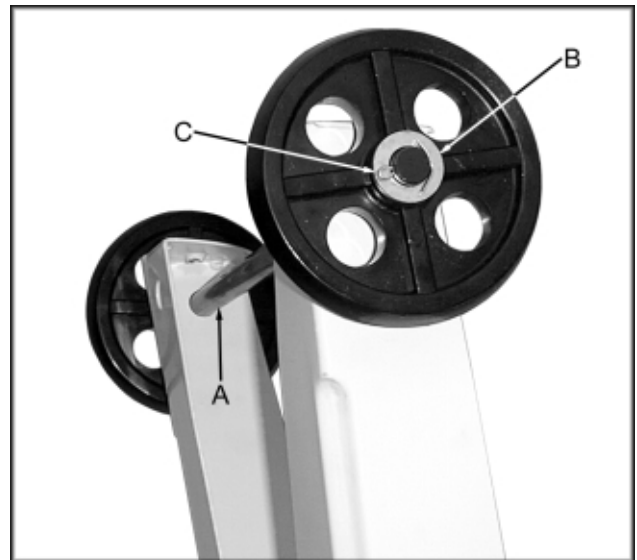

Fig. 3
- Slide the axle (A, Fig. 3) through the legs. Place a large flat washer (B, Fig. 3) on both sides of the wheels and place on the axle. Secure wheels with two split pins (C, Fig. 3).